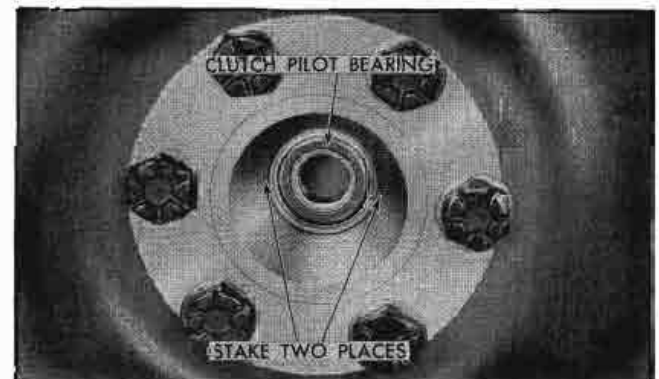

Fig. 6-49 Clutch Pilot Bearing Staked
3. If clutch pilot bearing is to be replaced, use cold chisel to remove staking in end of crankshaft which keeps bearing in place when transmission is removed (Fig. 6-49). Remove clutch pilot bearing from hole in crankshaft.
If bearing is a snug fit in crankshaft, use puller J-4383 and slide hammer J-2619-A or J-942 to remove bearing. When installing new bearing see that hole in crankshaft is thoroughly clean. Install new bearing with shielded side toward transmission. Start bearing into hole and tap into place by using clutch pilot bearing installer J-5736 against outer race. Stake slightly as shown in Fig. 6-49, to keep bearing in place in case transmission is removed in the future.